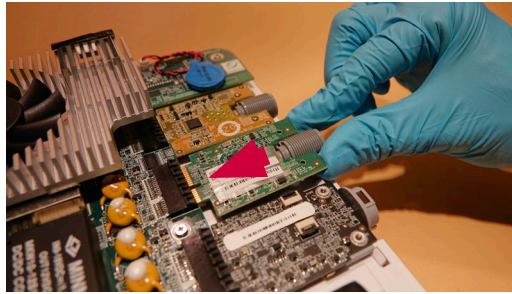

Figure 23 Insert a new VDI board
- d) **Insert the new VDI board into the main board connector (Figure 23)**